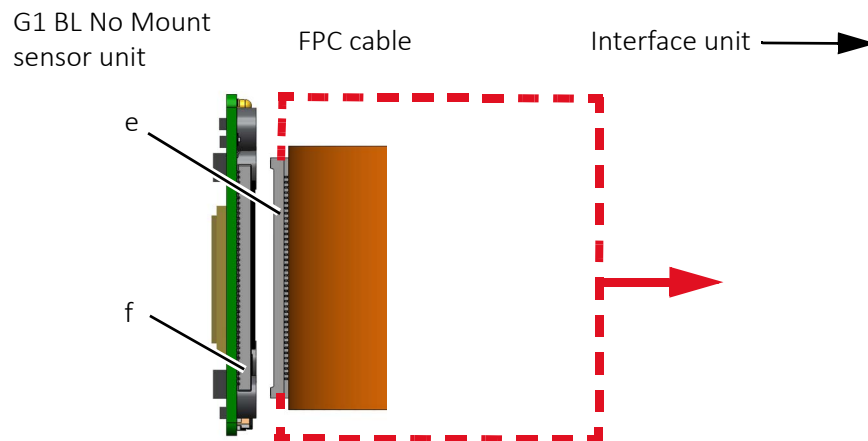

Figure 58: Disconnecting the interface unit from the sensor unit
- Disconnect the FPC cable **only** on the sensor unit side as shown in Figure 58.
2. With 2 fingers grabbing the cable side FPC connector (e) at the edges, disconnect the FPC cable from the FPC connector (f) of the sensor unit as shown in Figure 58.